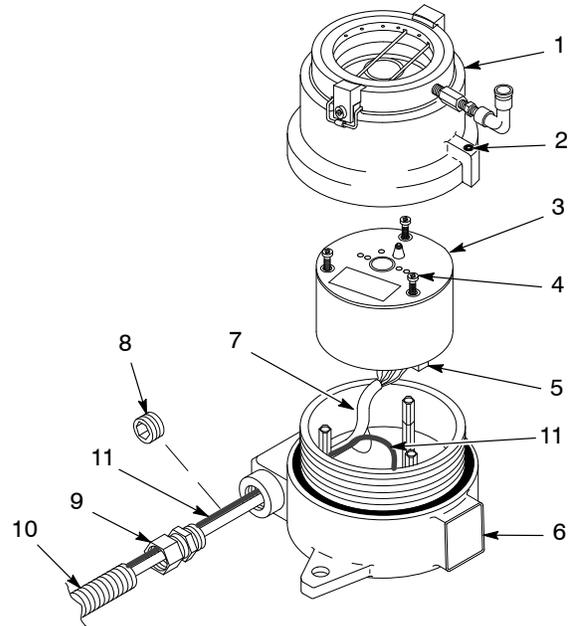

Figure 5 Detector Head Electrical Connection
1. See Figure 5. Loosen the set screw (2) in the upper housing (1). Unscrew the upper housing from the lower housing (6).
2. Loosen the three screws (4) in the top of the microprocessor/sensor module (3). Remove the module from the lower housing. Keep the sensor lens clean.
3. Remove one of the plugs (8) from the lower housing, and install a liquid-tight conduit fitting (9) (Type 12 minimum) in the open port.
4. Pull the cable (7) and ground wire (11) through the conduit (10), then connect the conduit (10) to the fitting.